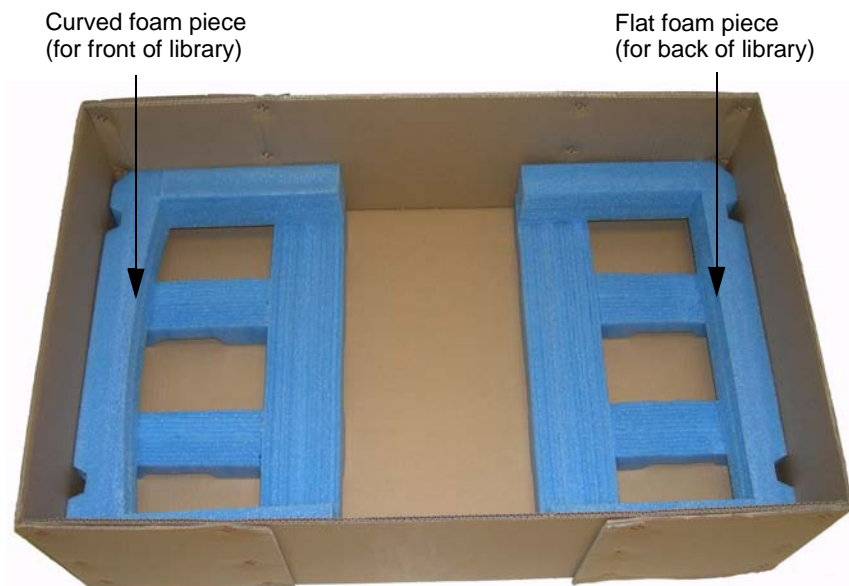

Figure D-9 Bottom foam packing pieces
2. Put the foam cushions in the bottom of the box, as shown in Figure D-9.